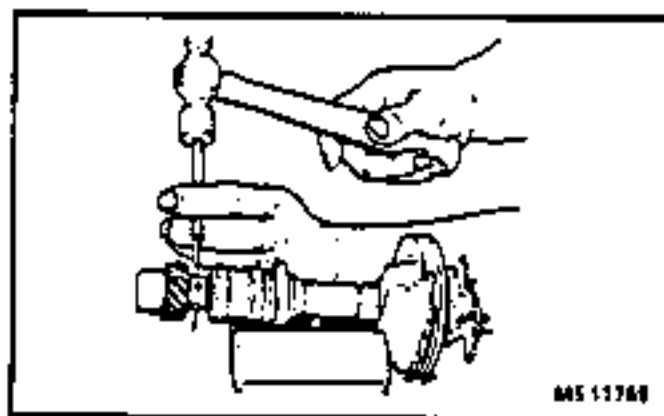

Figure 10 - Removing the Roll Pin
- Any time the distributor is disassembled, the retainer (5) must be replaced. Do not attempt to reuse the old retainer.
1. Screws (1) and washers holding the cap to the housing
2. Cap (2) from the housing
3. Rotor (3) from the shaft by lifting or prying straight up.
4. Roll pin (15) from the shaft (4):
- B. Drive out the roll pin with a small punch (Figure 10).
5. Driven gear (14), washer or spring (13), and spring retainer or tang washer (12).
6. Shaft (4) with the pole piece (8) and plate from the housing (11).
7. Retainer (5) from the housing (4) as follows: